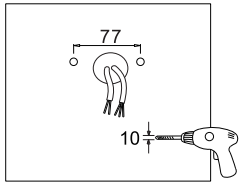

Figure 21
4. YOKE MOUNTING (YM)
- Step 1: Drill holes on the wall as shown. (Figure 21)